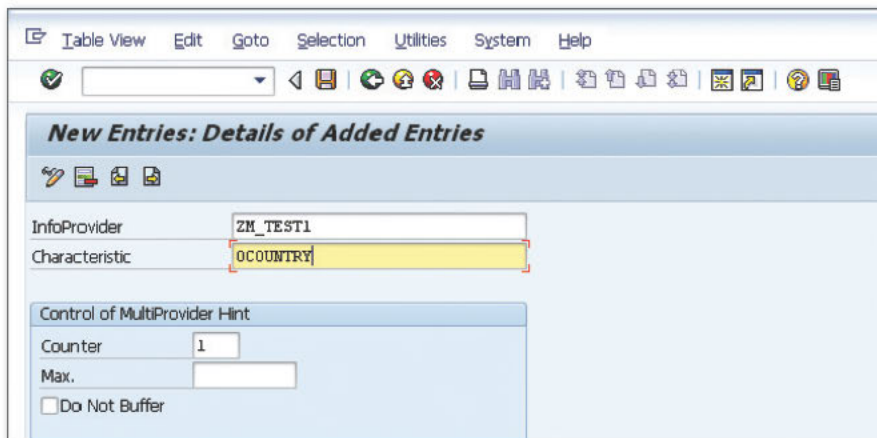

Figure 1 Creating a New Entry for the MultiProvider and Partitioning Criteria
3. Specify the name of the MultiProvider that you are trying to optimize and also characteristic(s) that can be used for partitioning. In this case, we will use an existing MultiProvider "ZM_TEST1" and use the characteristic "OCOUNTRY" as the partitioning criteria. OCOUNTRY will now be set as a global filter for all queries on this MultiProvider (see Figure 1).